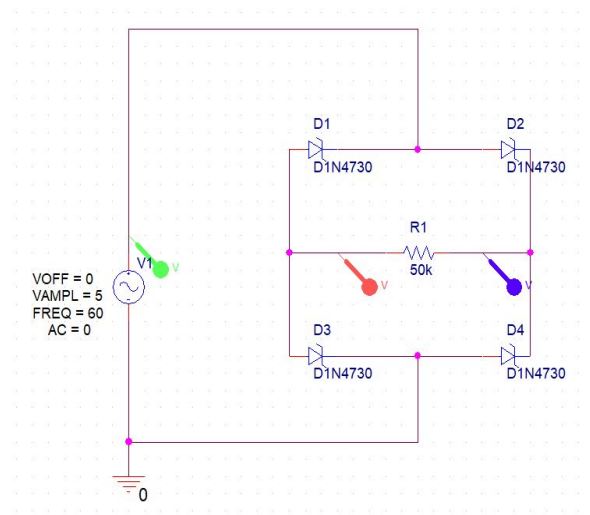

Fig 3. PSpice full-wave diode rectifier.
Step 14: Build the circuit shown in Figure 3 using 1N4733 Zener Diodes, 1k Ω load resistor, and waveform generator.
To complete this lab, the group tested the diodes characterization by using the digital multimeter to view the current with different voltage. There would also be various different circuits such as Figures 3, 8, and 13 to view how the Zener diode would change the voltage. There were also some calculations and making data into graphs that needed to be done with each circuit. There were some challenges with the lab due to the oscilloscope and Virtual Bench that would make students need to use